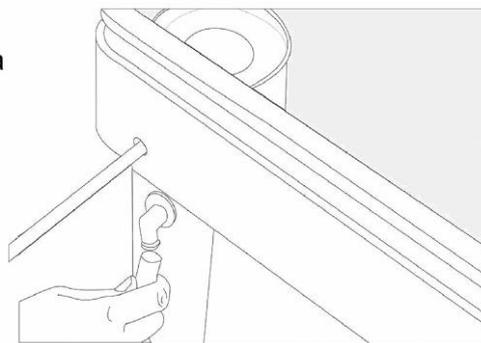

Figure 19
- Finally, use 1/2" I.D. tubing to connect the drain barb fitting on the brine tank to a floor drain as shown in Figure 19. NOTE: This is not necessary as the 2310 assembly is designed to prevent an overflow situation, , but is a good and recommended precaution for a proper installation.